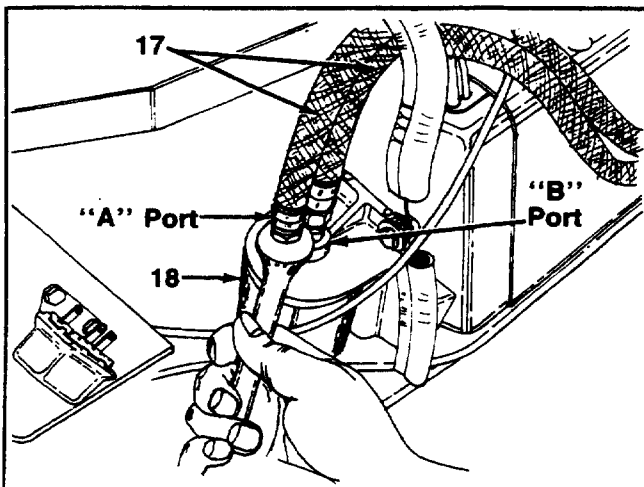

FIGURE 12.
15. Disconnect the two oil lines, located on the right hand side of engine, from the oil filter. See figure 12. A 5/8" wrench is required.